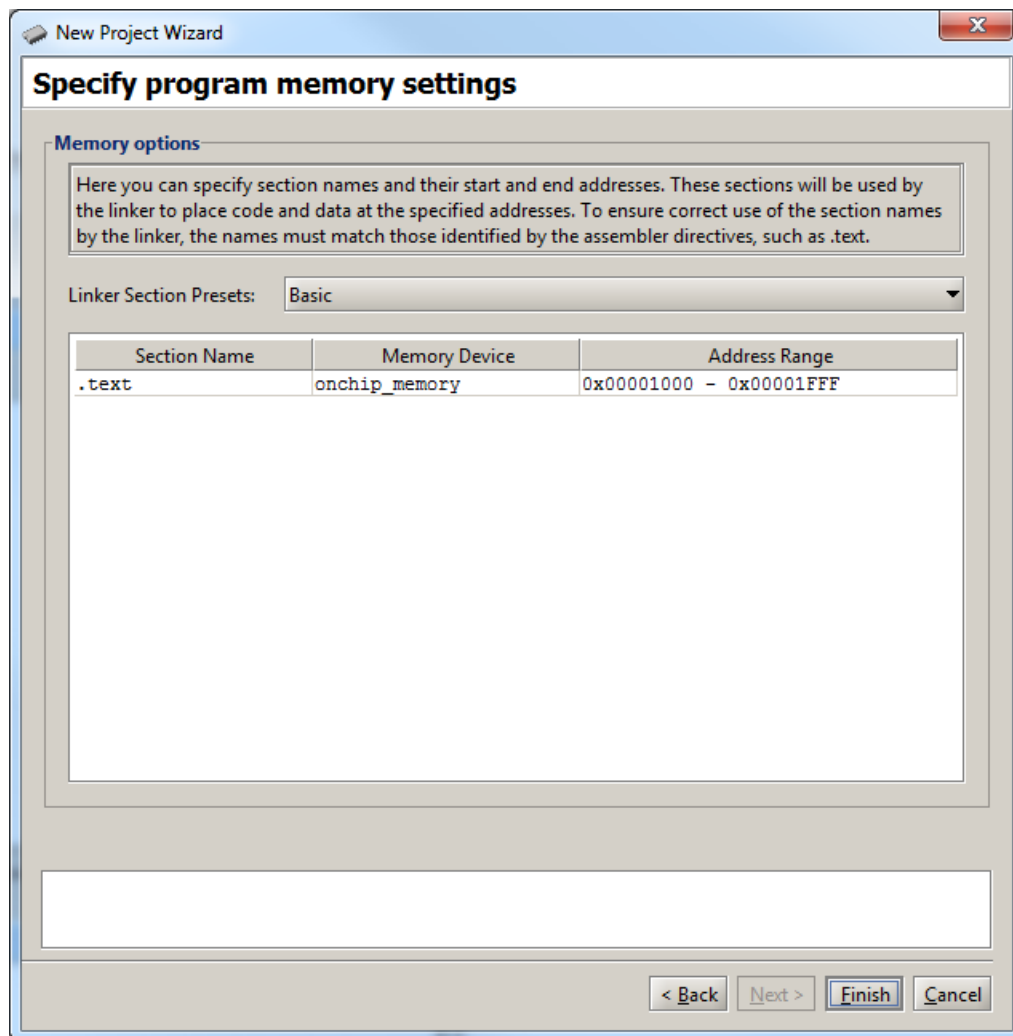

Figure 32. Specify where the program will be loaded in the memory.
8. The Monitor Program also needs to know where to load the application program. In our case, this is the memory block in the FPGA device. The name assigned to this memory is *onchip\_memory*. Since there is no other memory in our design, the Monitor Program will select this memory by default, as shown in Figure 32.